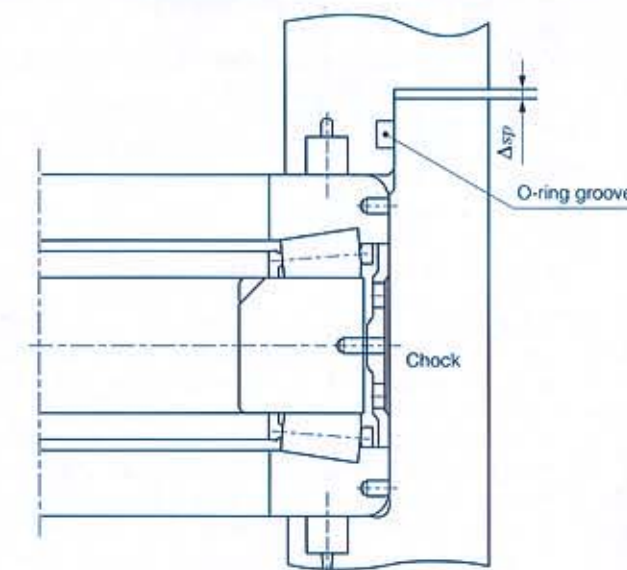

Fig. 3.44 Temporary assembly without preload springs
- (1) Remove the preload spring from the chock.
- (2) Using a jig, assemble the bearing into the chock.
- (3) Remove the O-ring and preload spring from the bearing holder lid, and install the holder lid on the chock.
- (4) Tighten the holder lid bolts temporarily.
- (5) Measure the clearance between the chock end surface and lid flange surface (Δsp) with a clearance gauge at several points around the bolts and determine the average (Δsp). (Fig. 3.44)
- (6) Set the shim combination thickness (Δsm) as follows: